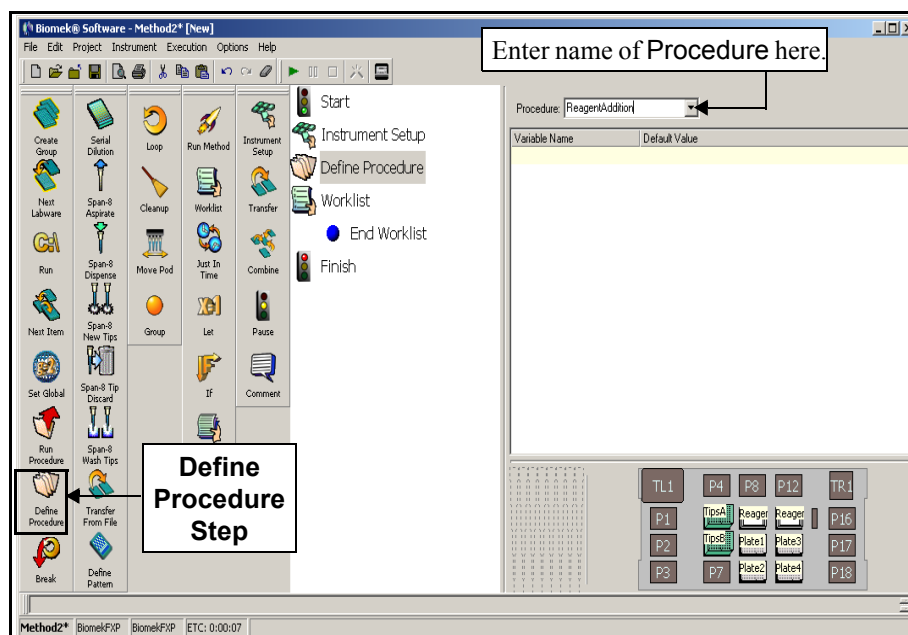

Figure 8-4. Procedure named
1. From the Specialty step palette (Figure 8-4), insert a **Define Procedure** step below the Instrument Setup step.
2. In Procedure, enter **ReagentAddition** (Figure 8-4). This becomes the name of your procedure and will appear as Define ReagentAddition in the method view.